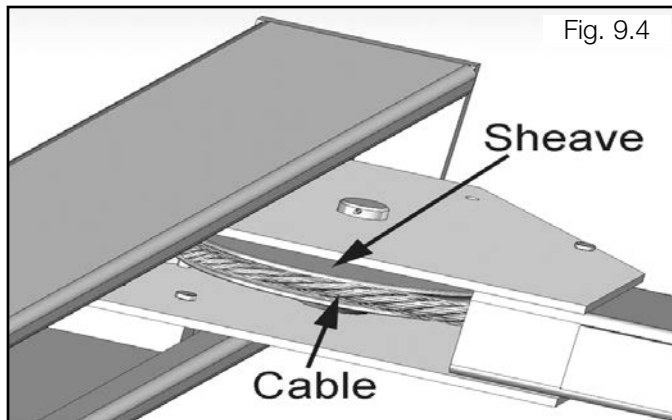

Fig. 9.4
3. After routing the Cables double-check to make sure all are properly positioned and remain within the grooves of ALL Sheaves. (See Fig. 9.4 - 9.5)